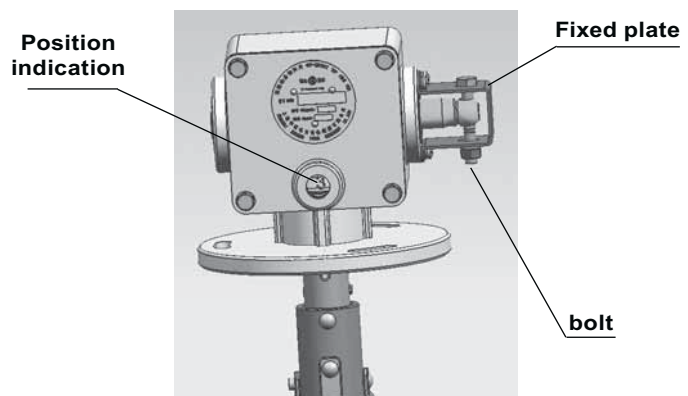

Fig.12 Geneva box
4.1.5.3 Dismantle fixed plate out of the geneva box and bolts (Fig.12). **Notice: the horizontal output shaft of the geneva box can not be rotated at the moment.** Connect the geneva box and worm wheel box horizontally.